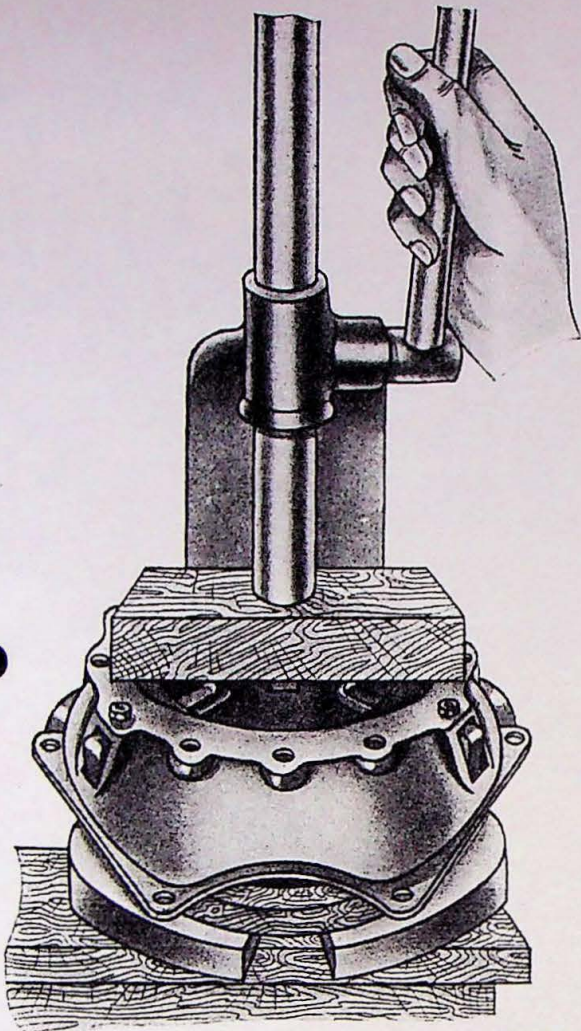
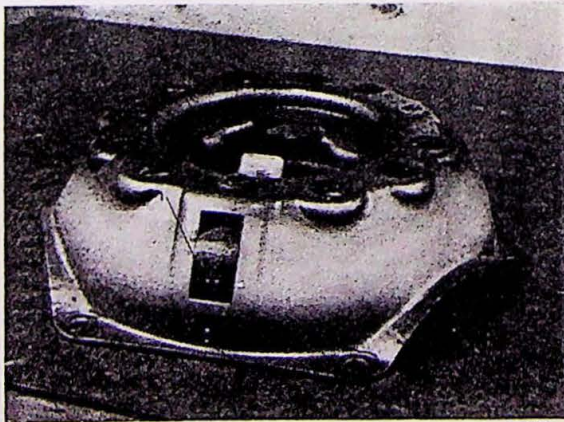
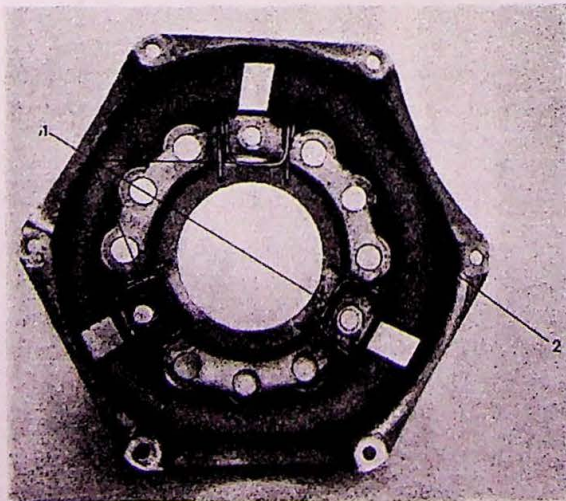

Fig. 7.
Fig. 8.
Fig. 11.
1. Place the clutch in a press with a wood block, $1\frac{1}{2}'' \times 8''$ under pressure plate fig. 7. Mark the clutch as fig. 8 indicates.
2. Place a wood block across clutch top. Press down clutch plate cover about 3 mm ($\frac{1}{8}''$) and lock the press in that position, fig. 7.
1. Place pressure plate in a press on the same wood block as used when disassembling, fig. 7.
5. Check that the three release lever springs are placed in position, fig. 11 (1), and place the clutch plate cover on top of the six pressure springs in the punch-marked position, fig. 8.